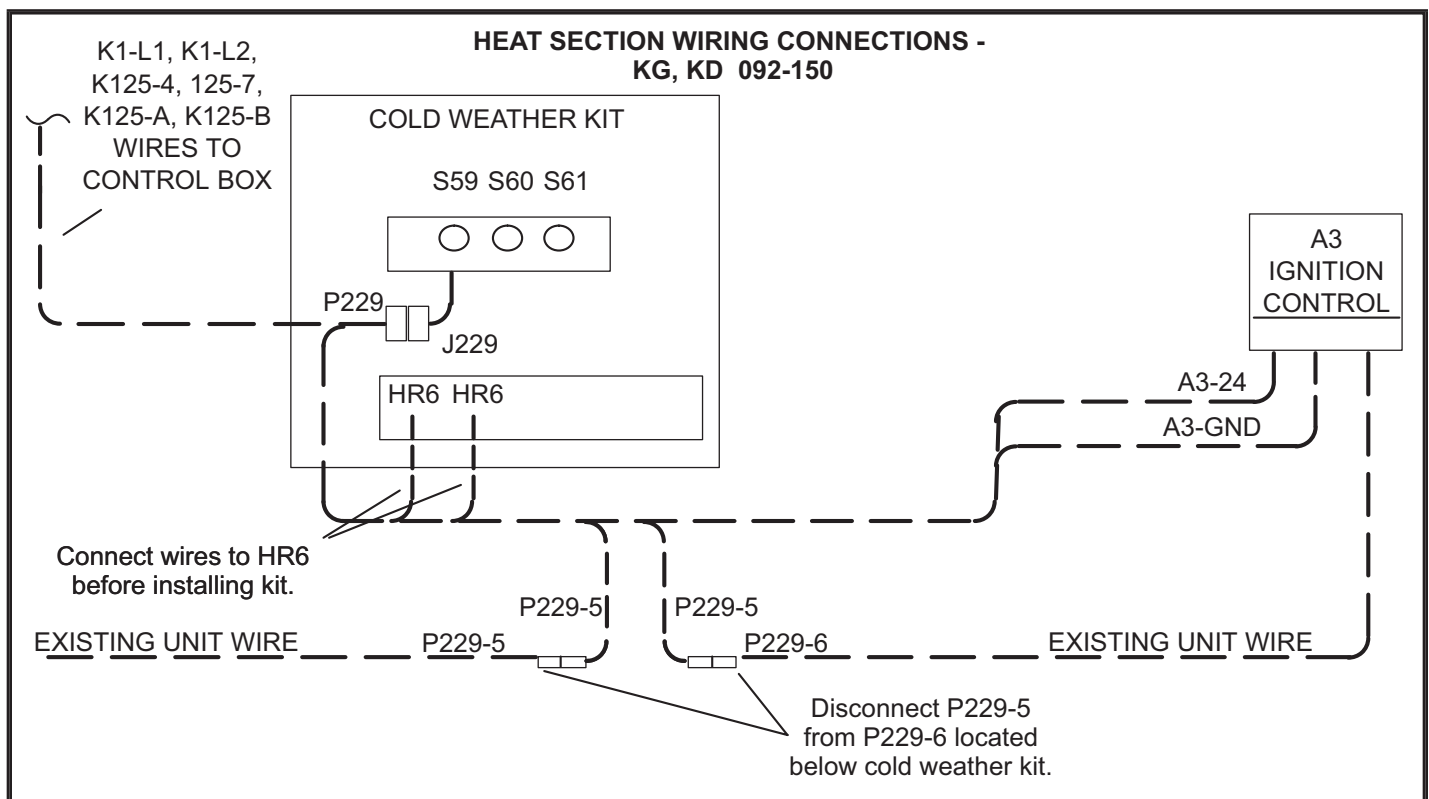

FIGURE 7
- 4 - Remove cold weather kit cover and connect wires labeled HR6 to the cold weather assembly. See FIGURE 7. Replace cold weather kit cover.
- 7 - Make wire connections in the control box as shown in FIGURE 5 and in the heat section as shown in FIGURE 7.